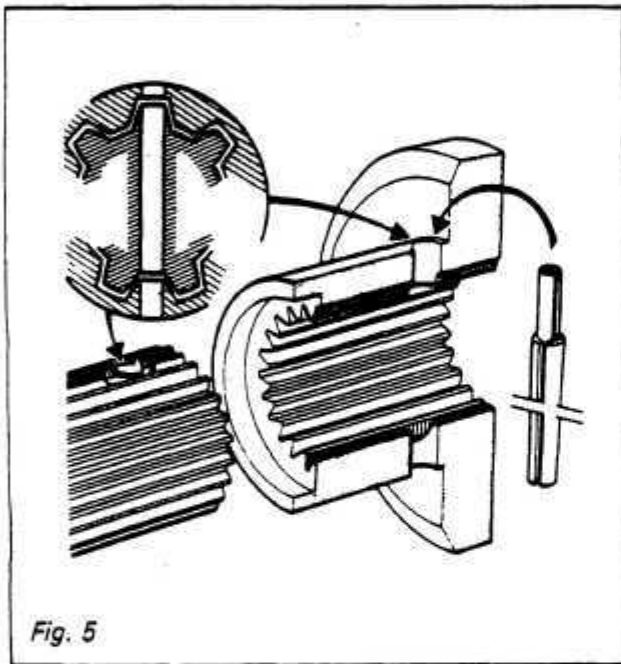

Fig. 5
4. Remove the retaining pin with pin punch securing the flange to the differential shaft. (Fig. 5)